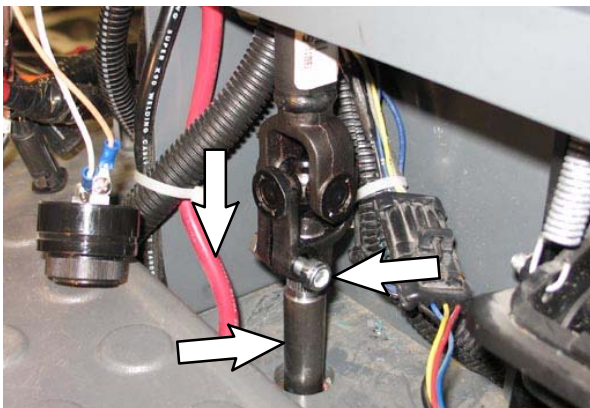

FIG. 17
32. Reinstall the steering shaft onto the lower steering shaft and tighten the previously loosen hardware to secure the steering shaft to the lower steering shaft. (Fig. 17)